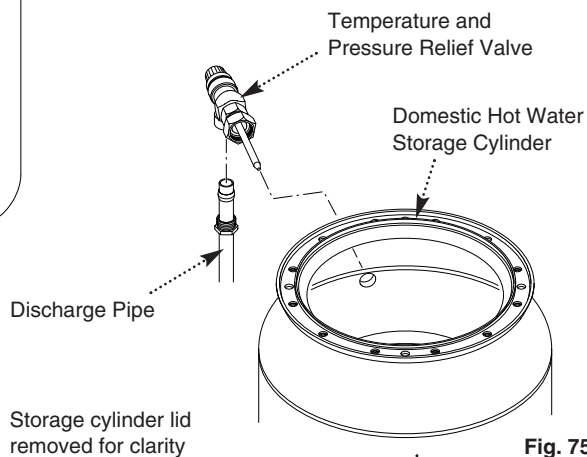

Fig. 75
11.17 Storage Cylinder Temperature & Pressure Relief Valve (Figs. 75 & 76)